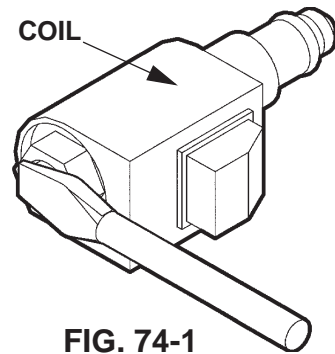

FIG. 74-1
1. Check if Solenoid Valves are constantly energized by touching a screwdriver to the top nut of the Solenoid (**FIG. 74-1**). Try pulling the screwdriver away from the solenoid. If the solenoid nut attracts the screwdriver (magnetically) without pushing the toggle switch, the control circuit is operating incorrectly. Check if toggle switch, wiring or coil are faulty.